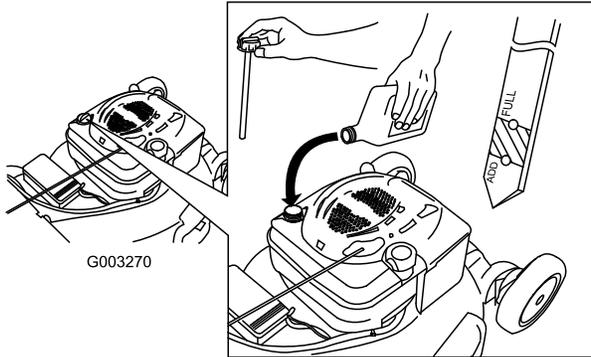

Figure 36
4. Slowly pour oil into the oil fill tube until the oil level reaches the Full line on the dipstick (Figure 36). **Do not overfill.** (Max. fill: 20 oz. (0.59 l), type: SAE 30 detergent oil with an API service classification of SF, SG, SH, SJ, SL, or higher.)